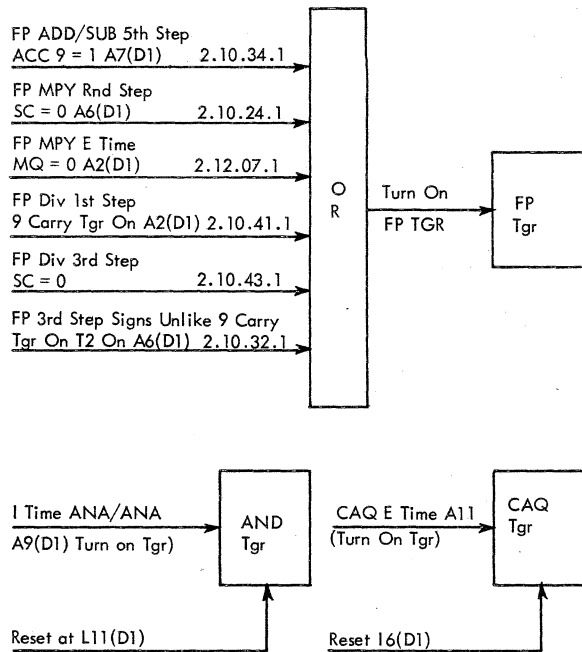

FIGURE 4.2-1. AND, CAQ, AND FP TRIGGERS
The floating point (FP) lamp indicates the condition of the FP trigger on Systems 2.10.29.1. The trigger is used to store certain conditions throughout the floating point operations. The conditions that turn on this trigger and indicator are shown in Figure 4.2-1.
The AND lamp indicates the condition of the AND trigger on Systems 2.09.46.1. It can be used to distinguish between the first and second E cycles of an ANS operation. It is on during the first E cycle of an ANS or ANA and off during the second E cycle of an ANS. See Figure 4.2-1.
The CAQ indicator signifies the condition of the CAQ trigger on Systems 2.09.49.1. It denotes the difference between the first and succeeding E cycles of a CAQ instruction. The trigger is off for the first E cycle and on for the remaining E cycles. See Figure 4.2-1.